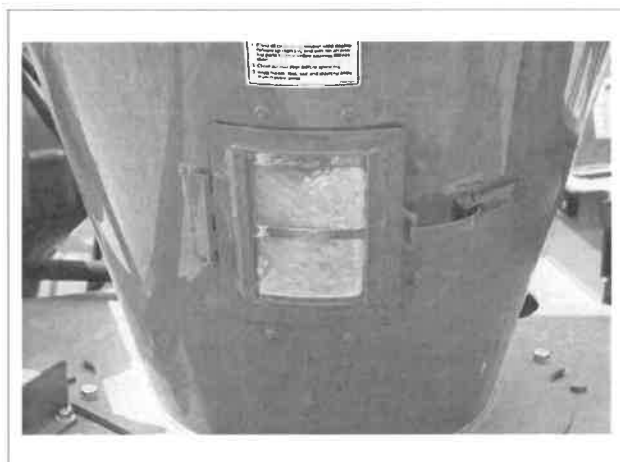

Fig. 4-20 Watch Product Movement Behind Glass Door.
- iii. Watch the glass door in receiver tank to determine how the product is moving through the machine(Fig. 4-20) The glass can be covered but it should not be stationary. If more of the product is being drawn in than discharged, the product will lay stationary against the window.